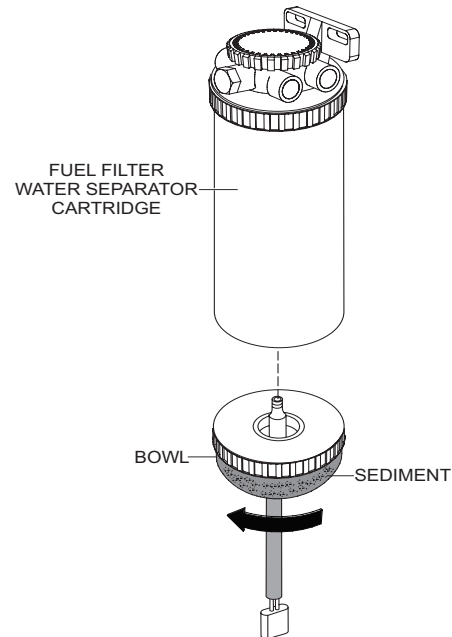

**Figure 63. Fuel Filter Cartridge Replacement**
1. Use a filter wrench to remove the fuel filter cup (Figure 63) from the fuel filter head.